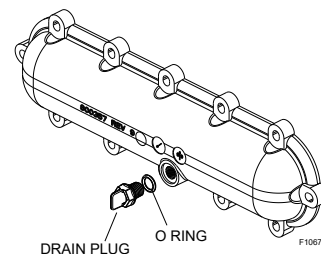
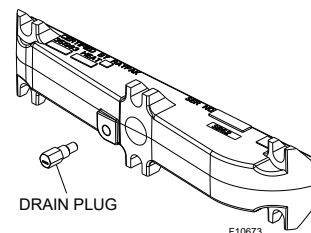

Figure 65. Return Header Drain Plug - Residential ("P" Prefix Model)
Figure 66. Return Header Drain Valve - Commercial ("B" Prefix Model)
2. Remove the ProTek Shield™ Assembly (if attached). Remove the heat exchanger inspection panel on the side opposite water piping to gain access to the drain plug on the return header. Open drain plug on return header. See **Figure 65** and **Figure 66**.